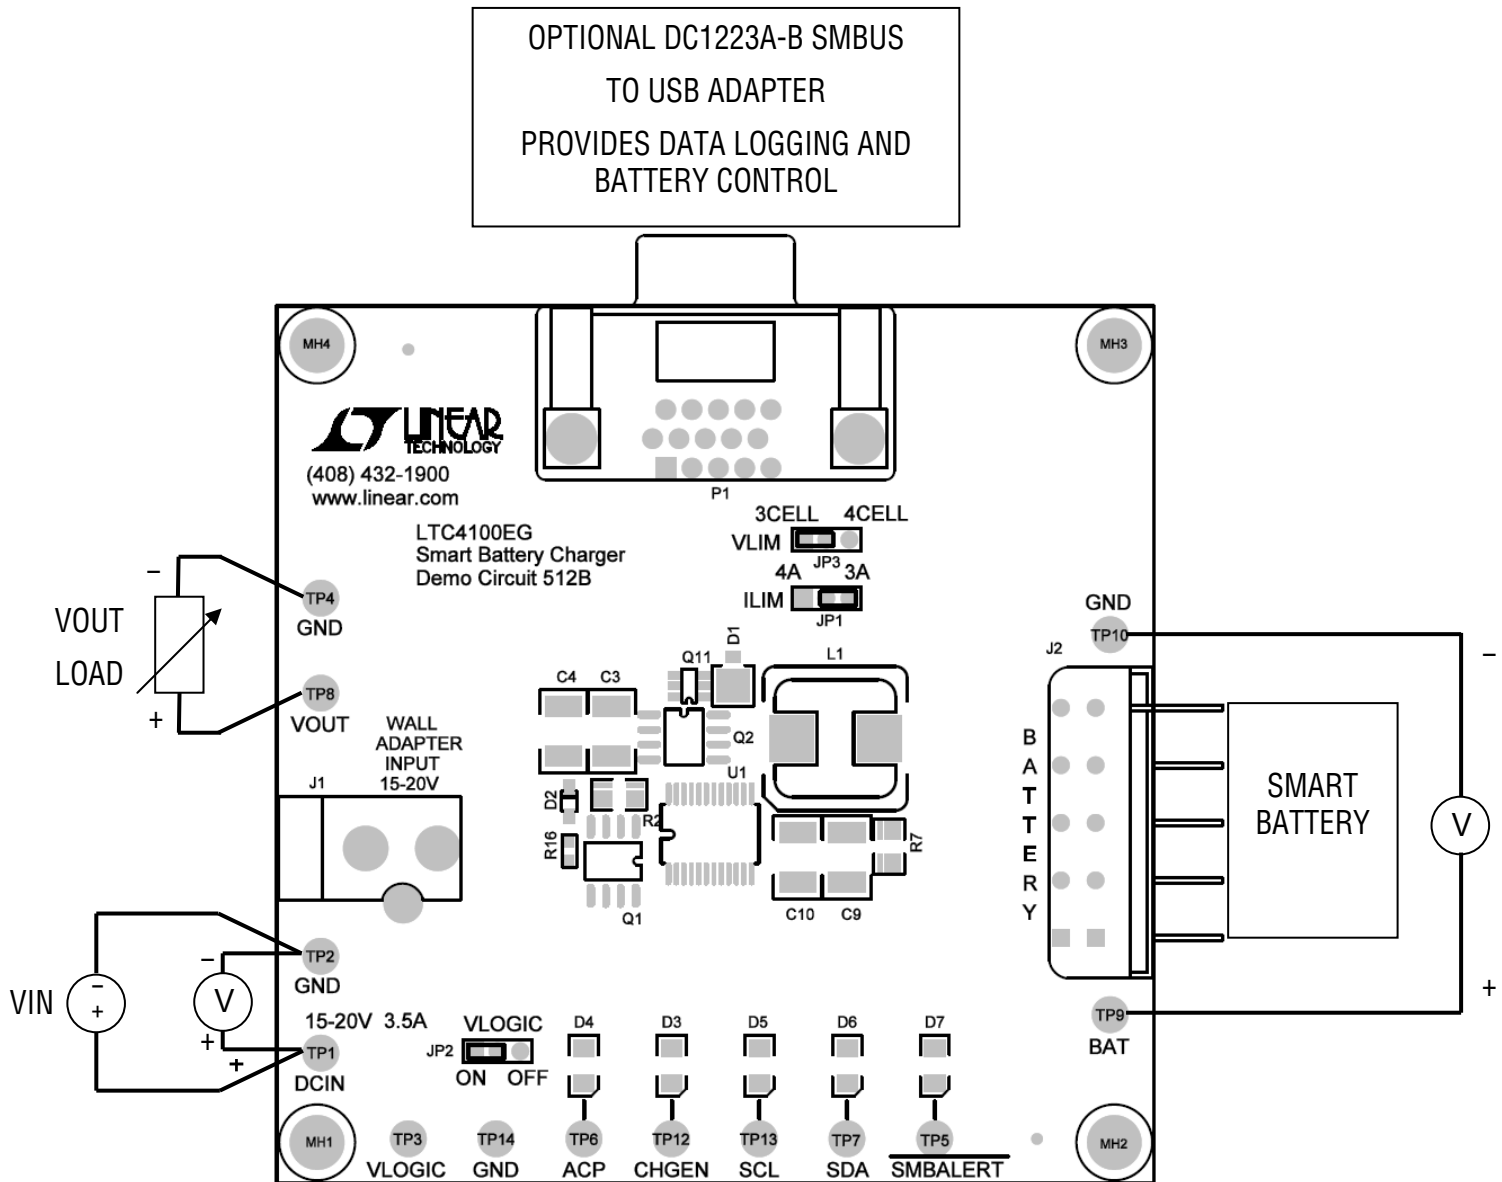

Figure 1. Proper Measurement Equipment Setup
Demonstration circuit 512B is easy to set up to evaluate the performance of the LTC4100. Refer to Figure 1 for proper measurement equipment setup and follow the procedure below.
2. With all power off, connect input power supply, and meters as shown in Figure 1.